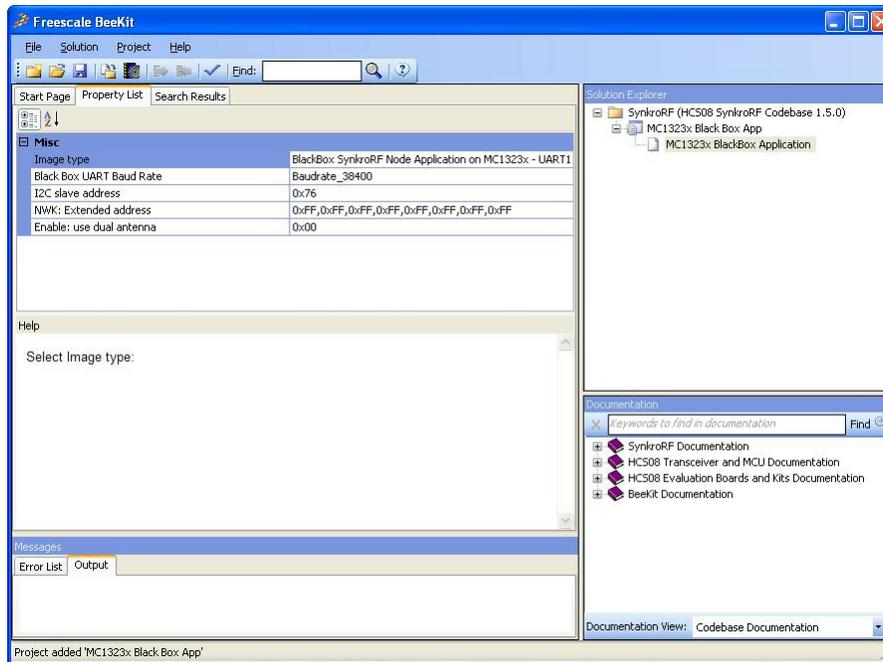

Figure 6-6. BeeKit Main Window (BlackBox Project)
11. Click on the Finish button. The BeeKit main window appears as shown in Figure 6-6, and the created solution is now ready for export to the development tool.